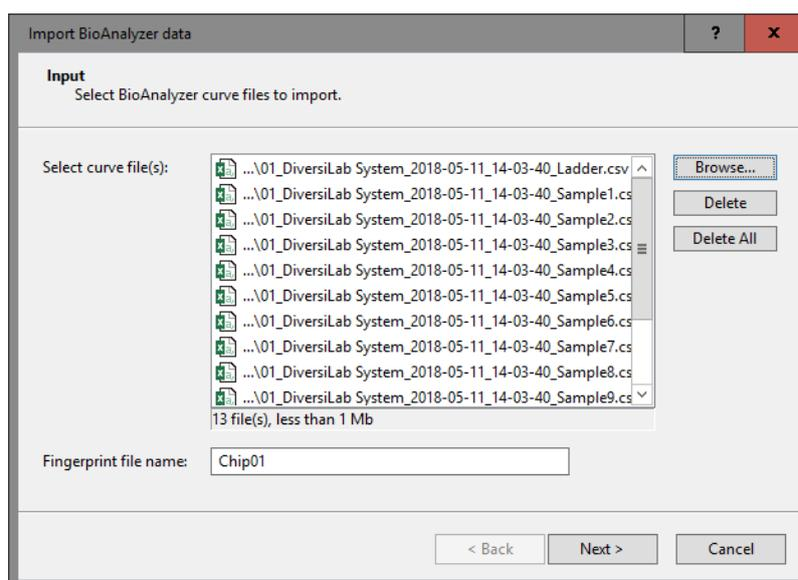

Figure 8: Select curve files from Chip01.
3. Browse to the downloaded and unzipped example data folder **Agilent** and select all Agilent 2100 BioAnalyzer csv files in the **Chip01** folder (see Figure 8). Press **<Next>**.